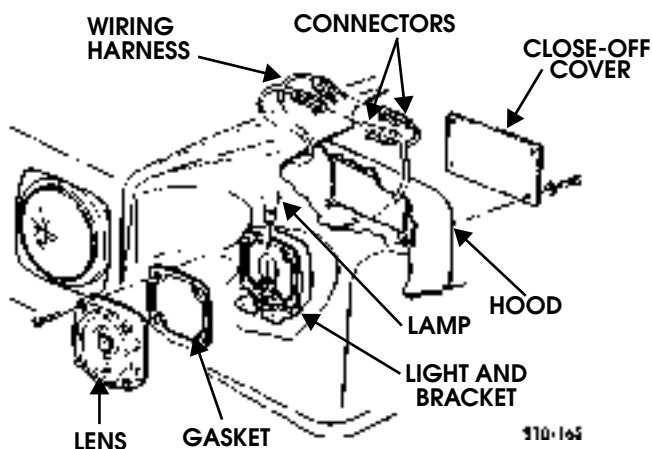

Figure 10-158: Front Turn Signal Assembly Breakdown
1. Remove four screws, lens, and gasket from turn signal light (Figure 10-158).
3. Connect two connectors to wiring harness (Figure 10-158).